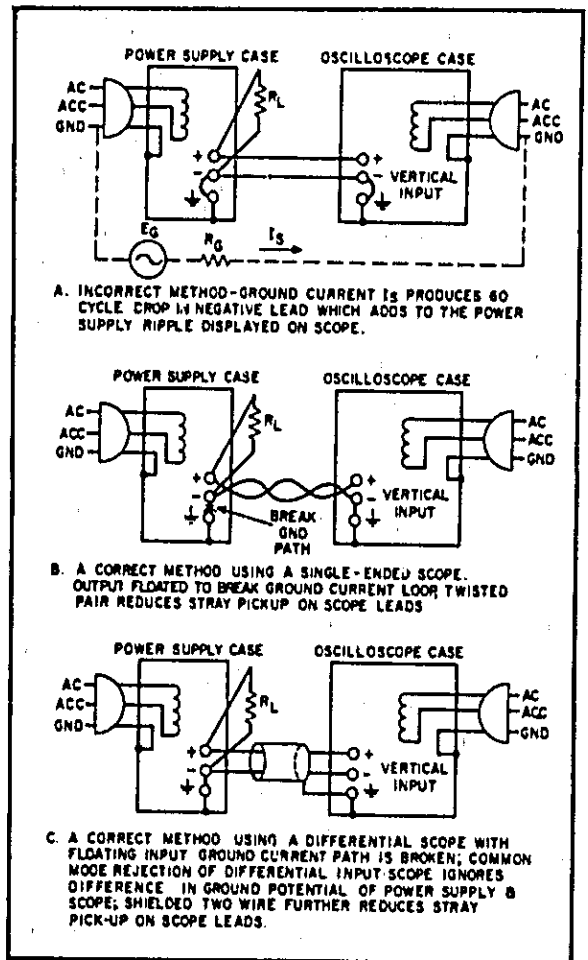

Figure 5-3. Ripple and Noise, Test Setup
- Connect test setup as shown in Figure 5-3.
5-22 Ripple and Noise Measurement. Figure 5-3 shows an incorrect method of measuring p-p ripple. Note that a continuous ground loop exists from the third wire of the input power cord of the supply to the third wire of the input power cord of the oscilloscope via the grounded power supply case, the wire between the negative output terminal of the power supply and the vertical input of the scope and the grounded scope case. Any ground current circulating in this loop as a result of the difference in potential E_G between the two ground points causes an IR drop which is in series with the scope input. This IR drop, normally having a 60 Hz line frequency fundamental, plus any pickup on the unshielded leads interconnecting the power supply and scope, appears on the face of the CRT. The magnitude of this resulting noise signal can easily be much greater than the true ripple developed between the plus and minus output terminals of the power supply, and can completely invalidate the measurement.
5-23 The same ground current and pickup problems can exist if an RMS voltmeter is substituted in place of the oscilloscope in Figure 5-3. However, the oscilloscope display, unlike the true RMS meter reading, tells the observer immediately whether the fundamental period of the signal displayed is 8.3 milliseconds (1/120 Hz) or 16, 7 milliseconds (1/60 Hz). Since the fundamental ripple frequency present on the output of an HP supply is 120 Hz (due to full-wave rectification), an oscilloscope display showing a 120 Hz fundamental component is indicative of a "clean" measurement setup, while the presence of a 60 Hz fundamental usually means that an improved setup will result in a more accurate (and lower) value of measure ripple.
5-24 Figure 5-3 shows a correct method of measuring the output ripple of a constant voltage power supply using a single-ended scope. The ground loop path is broken by floating the power supply. Note that to ensure that no potential difference exists between the supply and the oscilloscope it is recommended that whenever possible they both be plugged into the same ac power buss. If the grounds must be at earth ground potential.
5-27 In most cases, the single-ended scope method of Figure 5-3 will be adequate to eliminate non-real components of ripple and noise so that a satisfactory measurement may be obtained. However, in more stubborn cases it may be necessary to use a differential scope with floating input as shown in Figure 5-3C. If desired, two single conductor shielded cables may be substituted in